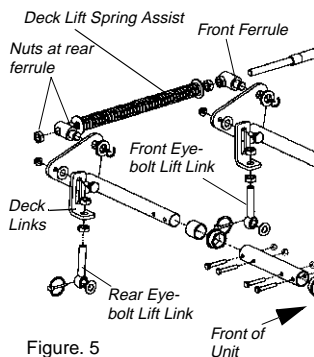

Figure. 5
- c. If the dimension at the front of the mowing deck is $\frac{1}{8}$ "- $\frac{3}{8}$ " lower than the dimension at the rear of the deck on each side of the mower, do not adjust. If not, you will need to adjust the ferrule distance on the Deck Lift Spring Assist (See Figure 5). You may also need to adjust the Eyebolt Deck Links (See Figure 5).